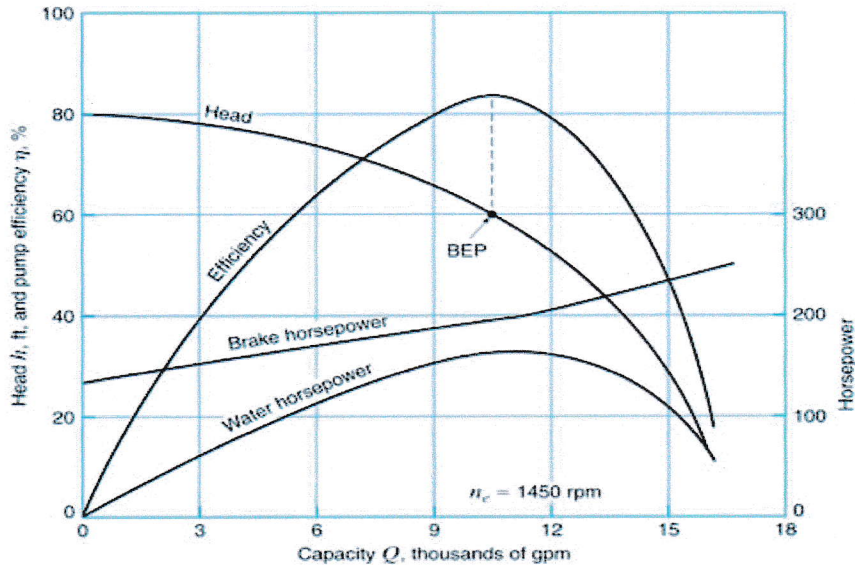

Figure 2: Characteristics curve of Centrifugal Pump.
The actual head rise (H) produced by a centrifugal pump is a function of the flow rate (Q). It is possible to determine the head-flow relationship by appropriate selection of the geometry of the impeller blades. Normally, pumps are designed so that the head decreases with increasing flow since such a design results in a stable flow rate when the pump is connected to a piping system. A typical head flow curve for a pump is shown in Figure 2.